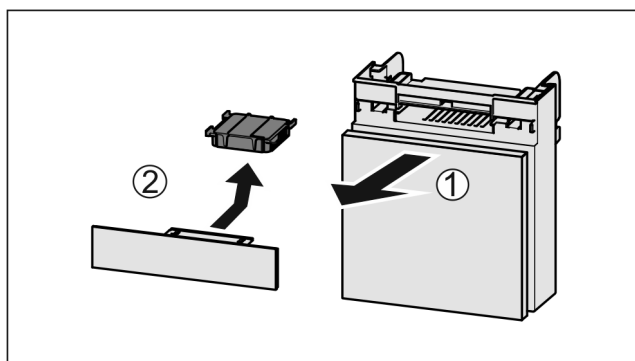

Fig. 236
- Pull out the compartment Fig. 236 (1).
- Remove the carbon filter Fig. 236 (2).